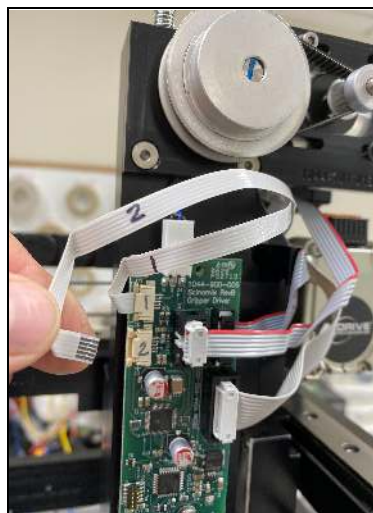

Figure 5.
- Touch the metal part of the chassis to remove any built up static charge from your body, then label the two small ribbon cables 1 and 2 as shown in Figure 5 below.